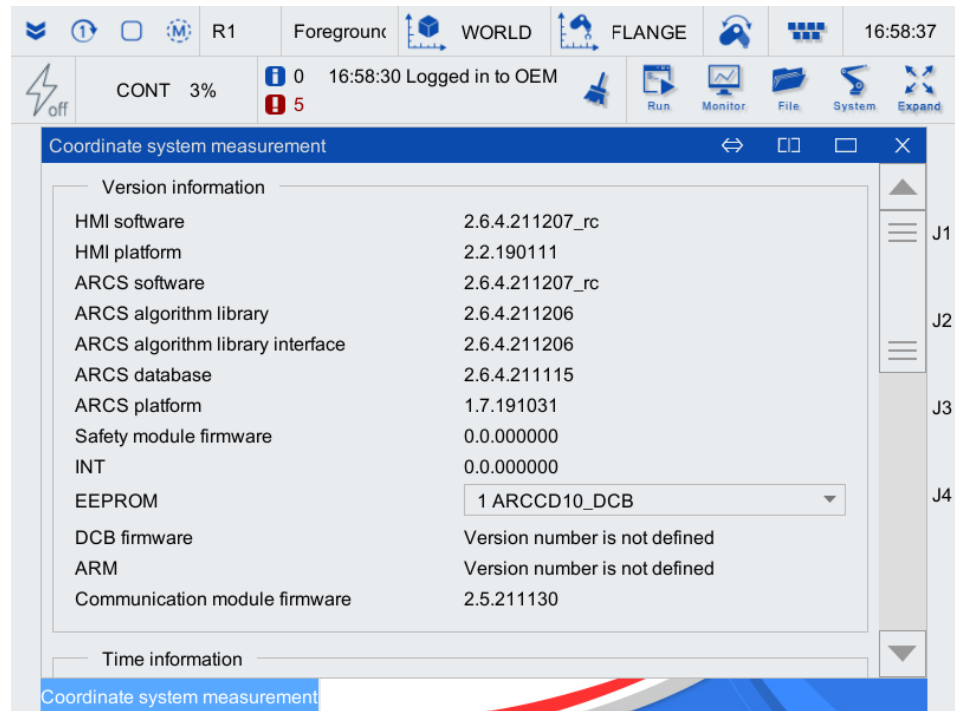

Figure 3-3 System message
Step 3. The [Coordinate system measurement] dialog box shown in Figure 3-3 pops up, carefully check whether the [ARCS software] and [HMI software] in the [Version Information] column are both higher than "2.6.4". If yes, you can continue the parameter configuration later; if not, please contact our company's after-sales engineer in time.